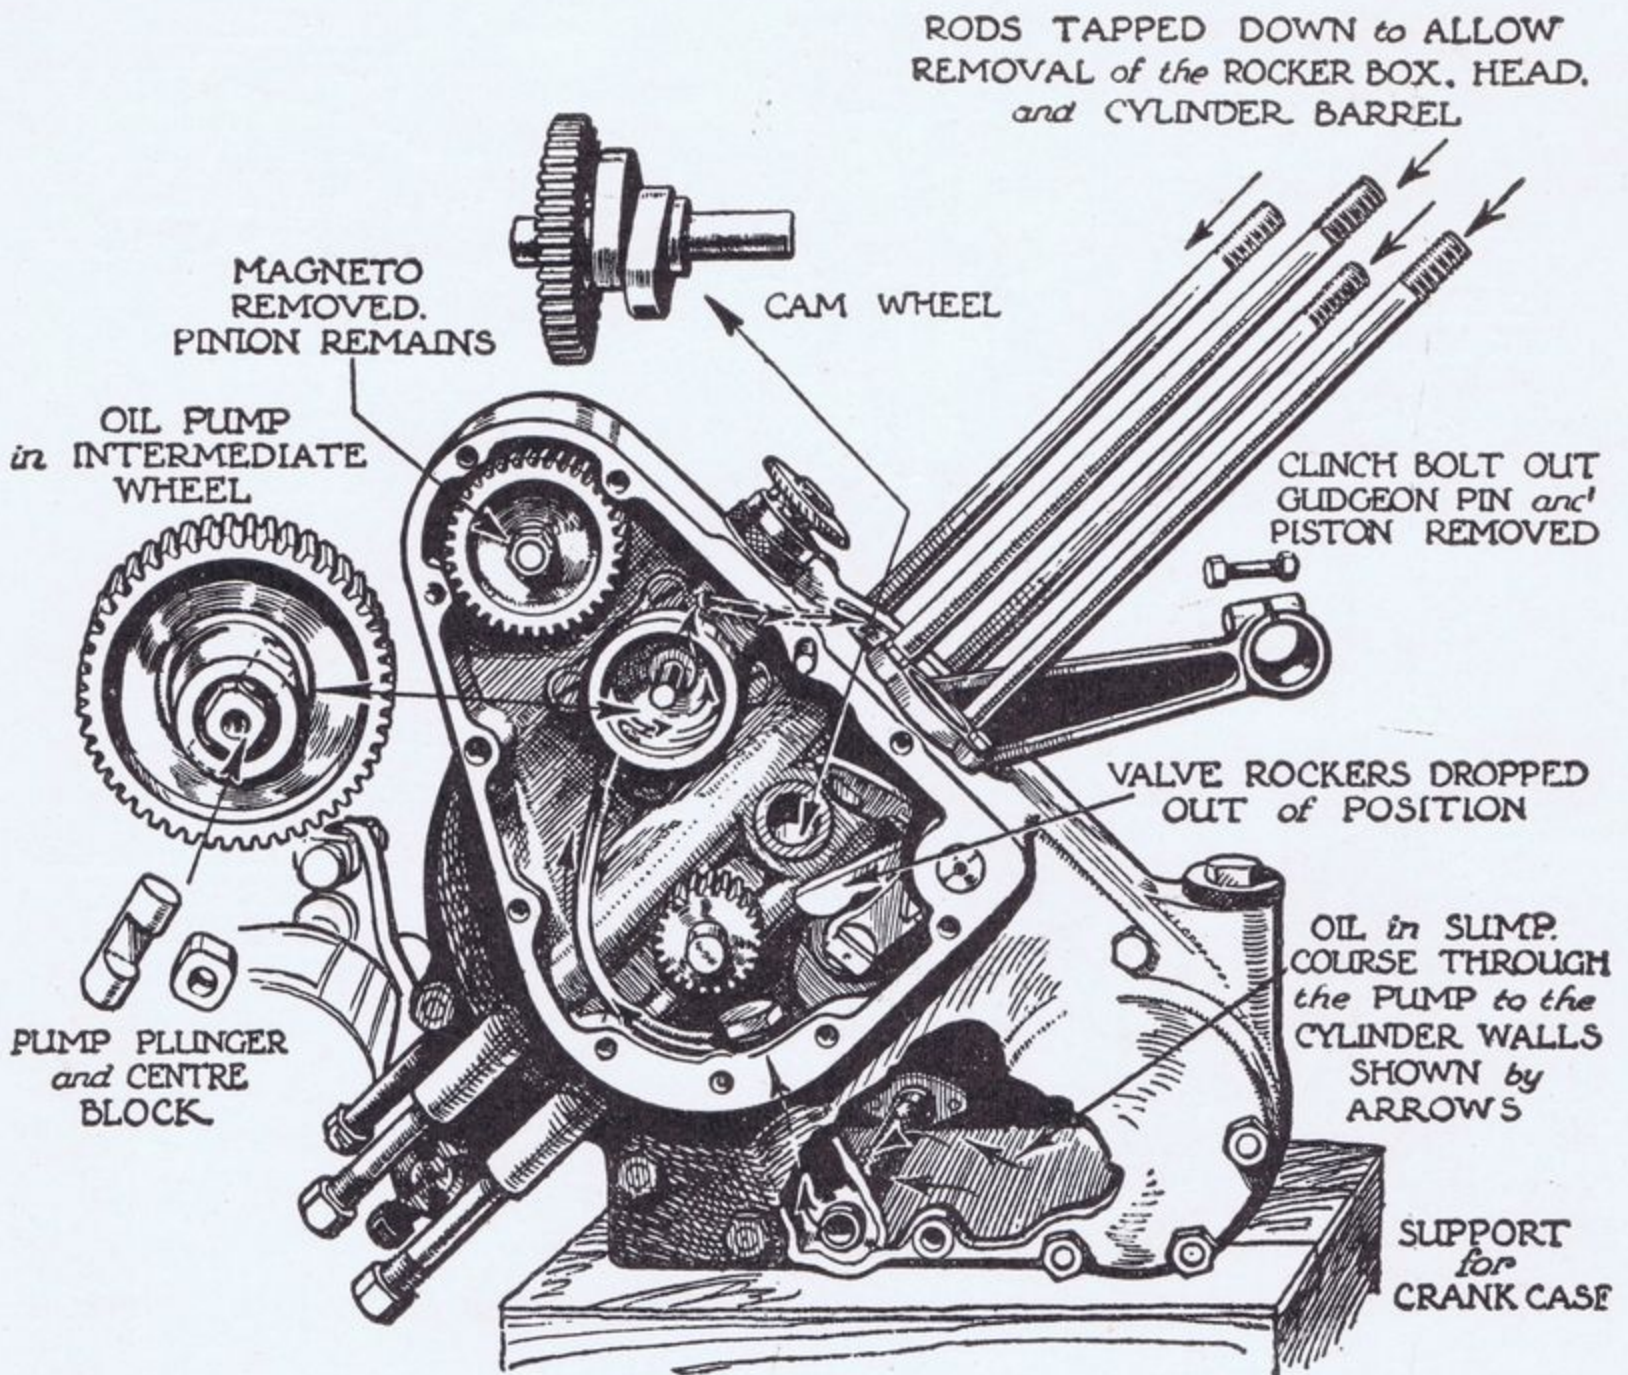
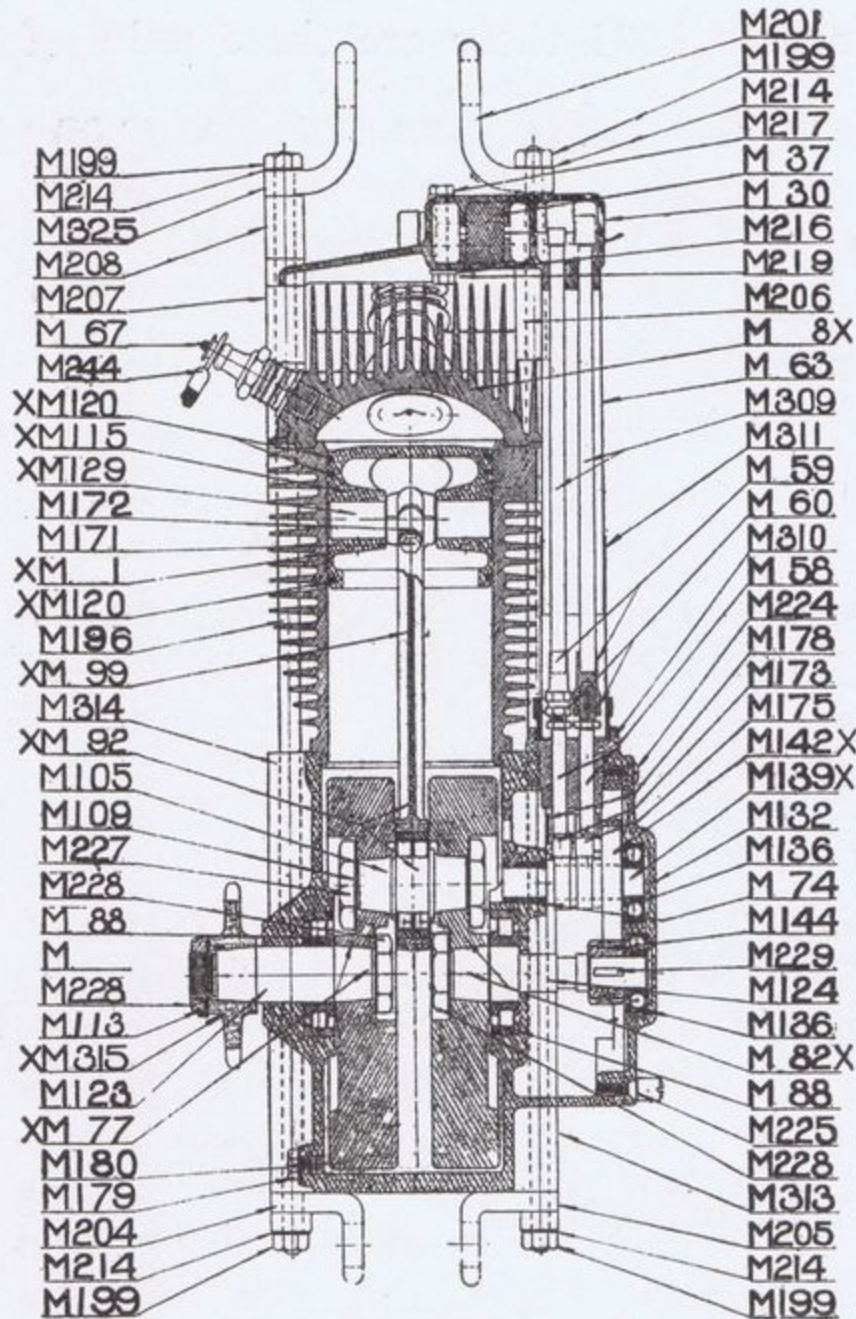

Fig. 2.—How THE PANTHER ENGINE IS DISMANTLED WITHOUT REMOVAL FROM FRAME.
Fig. 4.—ANOTHER USEFUL DIAGRAM FOR LOCATING THE PARTS.
In order to dismantle the engine for decarbonising, valve grinding, etc., it is *not* necessary to remove the engine from the frame or to disconnect front chain, chain guard or brakes (see Fig. 2). Place a petrol tin or similar support under the sump and remove high-tension lead, exhaust pipes, valve-lifter wire, carburetter, top engine bolt and cones and slide upwards the bottom half of the telescopic push-rod tube. The push rods will then be exposed at the bottom end where they fit into the tappet cups. The four nuts at the top end of the long rods passing through the engine must be removed, when the top lugs (201, Fig. 4) will lift off. The long rods should now be tapped downwards.
Take hold of rocker box in right hand, and with the left hand on push rods lift bodily until the push rods are clear of the tappet cups (59, Fig. 4). The distance washers (206, Fig. 4) will now lift off, and the engine rods push downwards through the cylinder head.
Remember the small distance washer *behind these cam levers*, and do not forget this when reassembling; also, when reassembling, do not drive the shaft in too far or the cam levers will bind. The end of the shaft should be *just flush* with the timing case. The big-end bearing of the connecting rod (92, Fig. 4) should permit of a small amount of side play, and if there is any up-and-down play the bearing must be renewed. Always dismantle the crankcase from the driving side first.
The engine sprocket (315, Fig. 4) is not keyed on, and after taking off lock nut and washer the sprocket will usually come off easily if a stout short piece of solid brass is placed between the teeth on the rear side and given a good sharp blow with a heavy hammer. Do not attempt to separate the crankcase with a screwdriver. If a piece of wood is used as a punch, the case will generally separate without force.
Oversize rollers cannot be satisfactorily fitted unless the crankpin (105, Fig. 4) is ground true. Such work can be dealt with best by the manufacturer of the bearings, but if excessive wear has taken place, both
The remaining point for attention is now the main engine shaft bearing (88, Fig. 4).
By the use of cam levers (173, Fig. 4) side thrust on the tappets (58, Fig. 4) is practically eliminated. If wear has taken place in the guides (310) it is cheaper to fit oversize tappets unless
The self-aligning ballraces (136, Fig. 4) are sometimes loath to leave their housings, and a good plan for the removal of these is to hold the cover